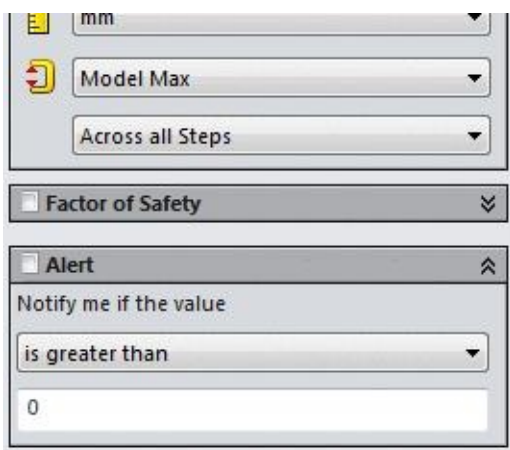

Figure-35. Sensor PropertyManager with Alert options
1. Click on the **Alert** rollout to expand it. The options in the rollout will be displayed as shown in Figure-35.